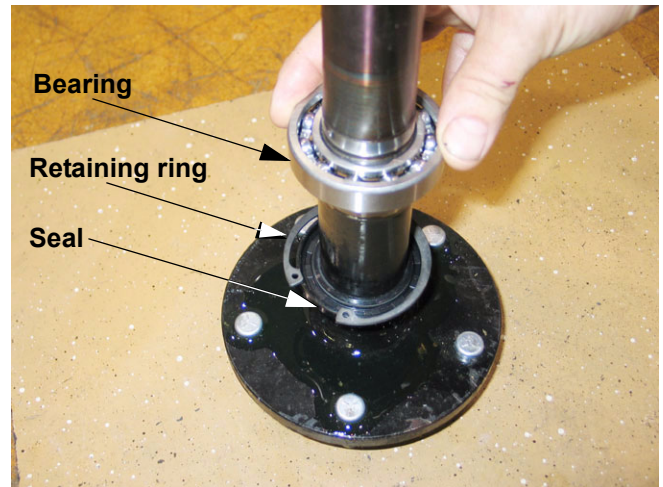

Figure 2.4
- 2.4. Install the axle bearing on the axle. See Figure 2.4.